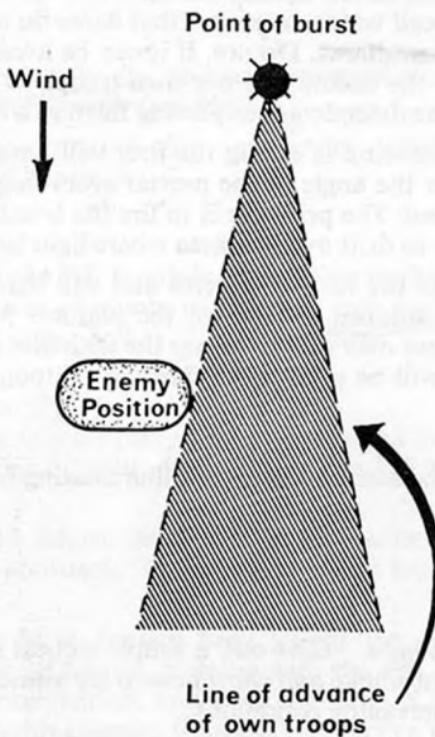

Fig 11.—Use of smoke for flank screening
81. If the movement to be screened is to a flank of the enemy position, the point of burst must always be up wind and to the required flank (see Fig 11). This applies to both following and head winds, and is the only instance in which it is worth while to use smoke in a head wind.